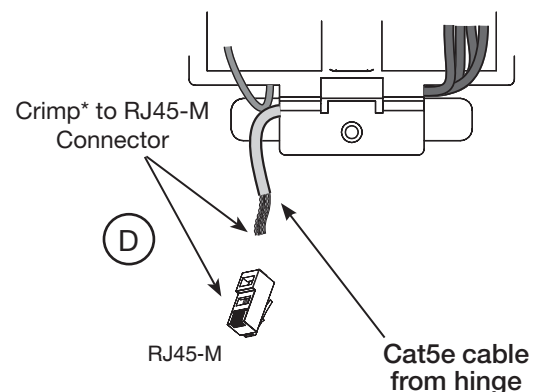

Fig. 15c
- e. Insert and partially tighten (2) through-bolts prior to installation of connectors.
- f. Secure both ground lugs with #6-32 machine screw (Fig. 15c).
Route wires around flange, do not route wires through the flange hole (Fig. 15c,d).
D. Crimp* RJ45 to cat5e cable from hinge (Fig. 15c).
*For more detail, refer to section (5) 'Installation Wiring', "A - Frame Harness Installation".